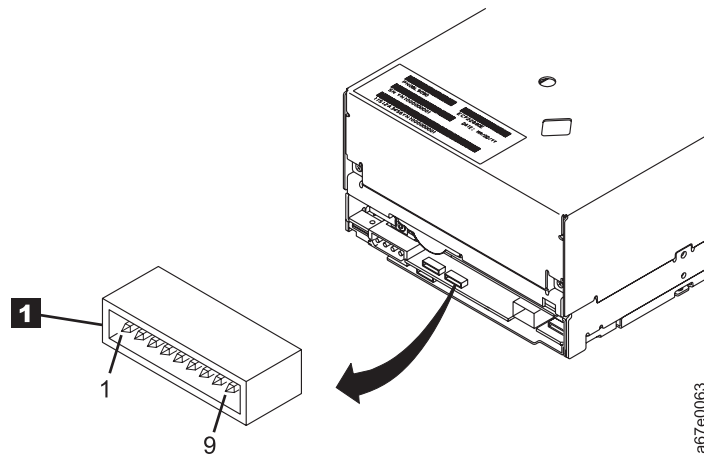

Figure 2-4. Location of the Fibre Channel (FC) configuration/status connector. The view is from the rear of the drive.
3. Locate the Fibre Channel (FC) configuration/status connector on the drive (see **1** in Figure 2-4 on page 2-10.)